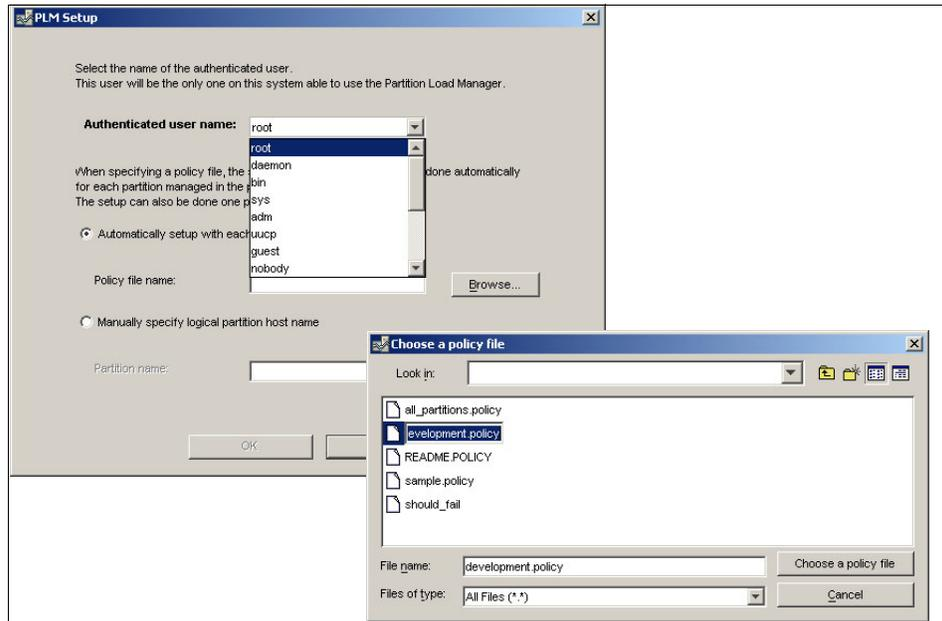

Figure 6-15 PLM setup communications with managed partitions window
10. Once the policy file has been defined with the managed partitions, we can set up the inter-partition RMC communications if this was not done manually with the `plmsetup` command earlier. Click **Setup communication with managed partitions**, which will present the window shown in Figure 6-15 on page 405.